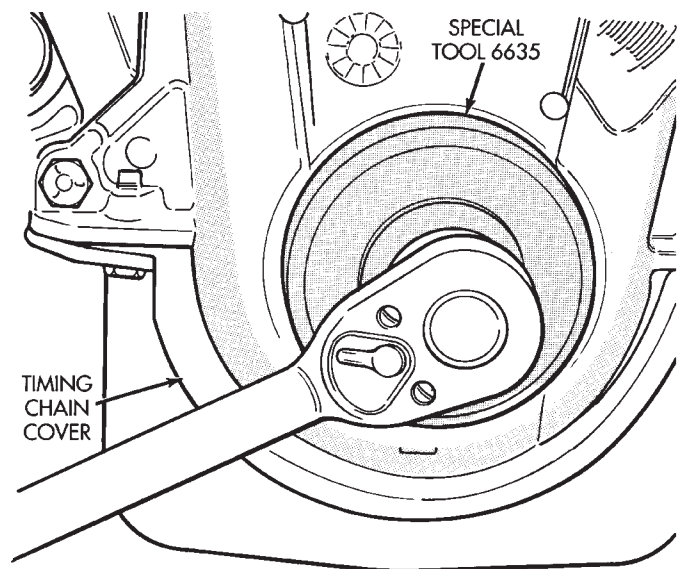

Fig. 29 Installing Oil Seal
(5) Tighten the four lower chain case cover bolts to 13N·m (10 ft.lbs.) to prevent the cover from tipping during seal installation.
(6) Using the vibration damper bolt, tighten the bolt to draw the seal into position on the crankshaft (Fig. 29).